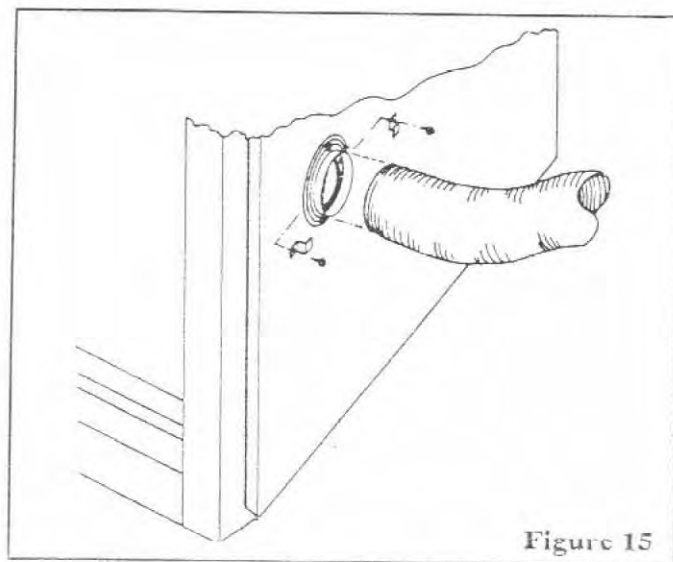

Figure 15
STEP 8: With the two remaining sheet metal screws and the two clamp brackets supplied, secure the duct to the air gate assembly as shown in Figure 15.